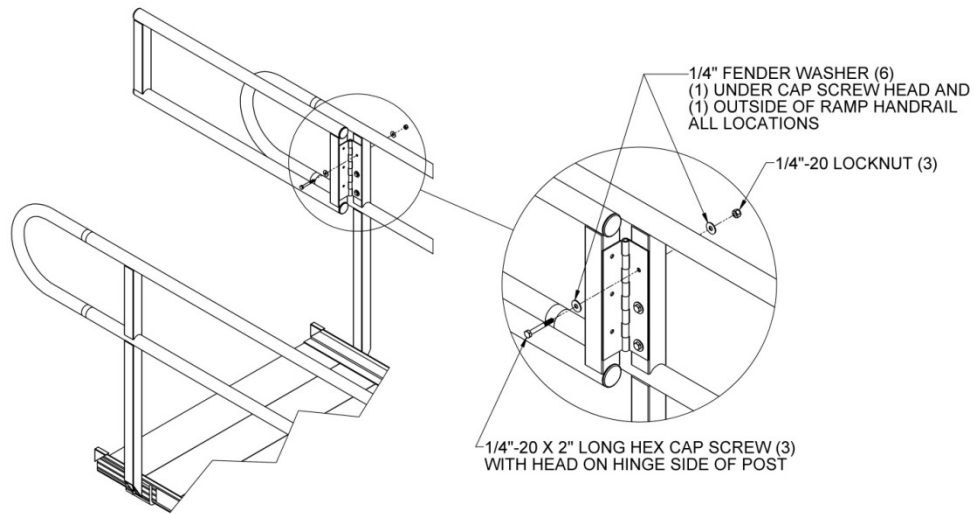

FIG. 3
- 2.4. Attach the gate to the ramp post using the 1/4"-20 x 2" long hex cap screws, 1/4"-20 locknuts and 1/4" fender washers. Orient the hex cap screws with the head on the hinge side of the post and the washers (FIG. 3).